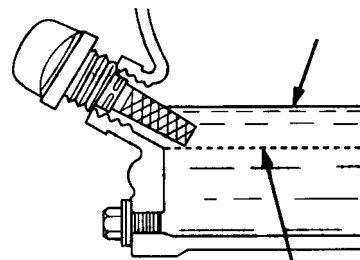

Figure 16. Engine Oil Dipstick (Oil Level)
4. If the oil level is low (Figure 16), fill to the edge of the oil filler hole with the recommended oil type (Table 5).